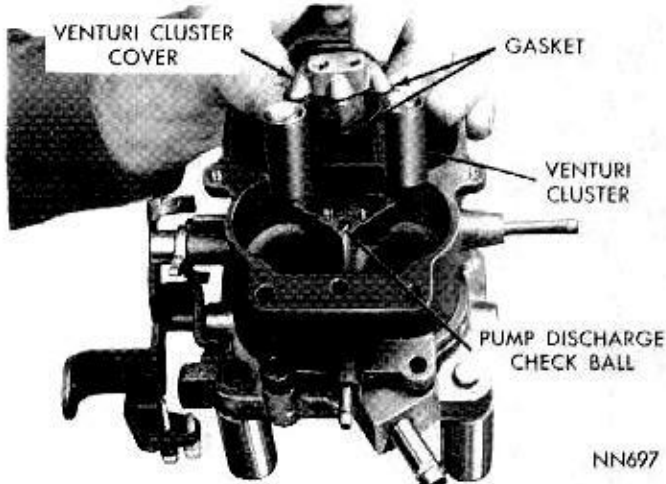

Fig. 7—Removing or Installing Venturi Cluster
(13) Remove venturi cluster screws, then lift venturi cluster and gaskets up and away from main body, (Fig. 7). Discard gaskets. **Do not remove the idle orifice tubes or main vent tubes from the cluster.** They can be cleaned in a solvent and dried with compressed air.
(14) Invert carburetor and drop out accelerator pump discharge and intake check balls.
(15) Remove plastic limiter cap from idle air mixture screws. (Be sure and count number of turns to seat the screw, as the same number of turns (from the seat) must be maintained at installation.) Remove screws and springs from throttle body.
(16) Remove screws that attach throttle body to main body. Separate bodies.
(17) Test freeness of choke mechanism in air horn.
(5) Install new gaskets on venturi cluster, then install in position in main body. (Fig. 7). Install cluster screws and tighten securely.
(6) Before installing step-up piston, be sure step-up rods are able to move freely each side of vertical